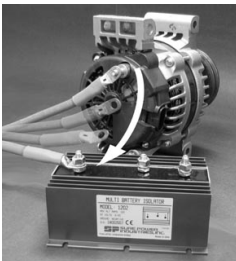

FIGURE 2
4. Locate the "BAT" terminal at the rear of the alternator. It is usually the largest connection. Disconnect **ALL** the wires (including the voltage regulator sensing wire if present) from the "BAT" terminal of the alternator. Reconnect these same wires to the "1" terminal of the battery isolator. Lengthen the wires if necessary. Be sure you follow proper splicing techniques. See Figure 2.